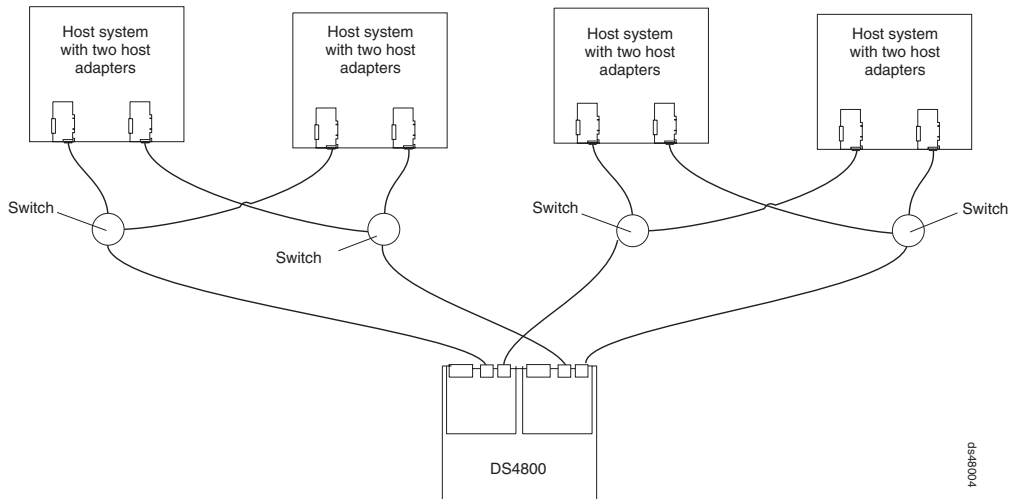

Figure 69. Example of a two-cluster configuration
- Two clusters, as shown in Figure 69 on page 96
Figure 69 on page 96 gives an example of one DS4800 and four host systems configured into two clusters; each cluster comprised of two host systems and two fibre channel switches.